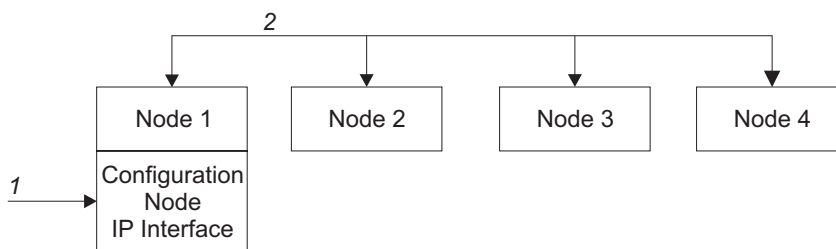

Figure 5. Configuration node
Figure 5 shows an example cluster that contains four nodes. Node 1 has been designated the configuration node. User requests (1) are handled by node 1.